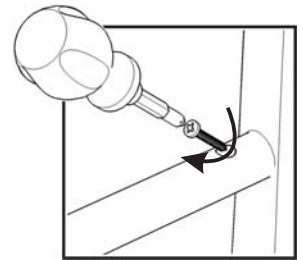

Figure 2
Attach Front Stretcher (C) to the unit with Wood Screws. (see Figure 2)